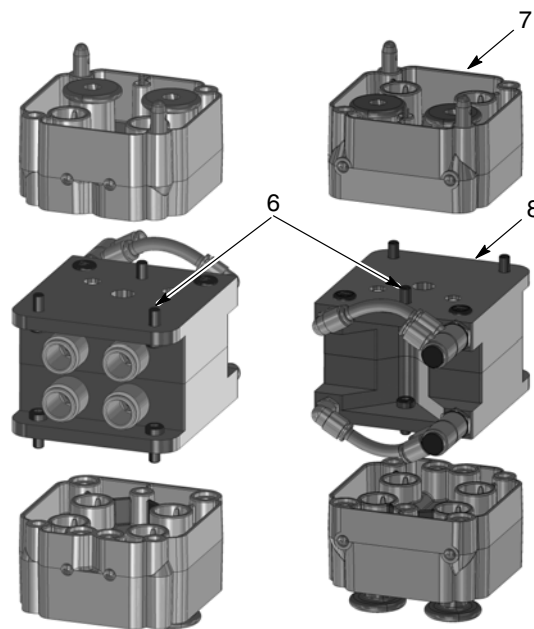

Figure 7-6 Separating Siphon Block Components
3. See Figure 7-6. Remove three cap screws (6) from each middle siphon block (8) to remove the middle siphon blocks from the pinch valve blocks (7).
6. See Figure 7-6. Using a 4-mm Allen wrench, insert a total of six cap screws (6) into each middle siphon block (8) to connect the middle blocks to the pinch valve blocks (7).